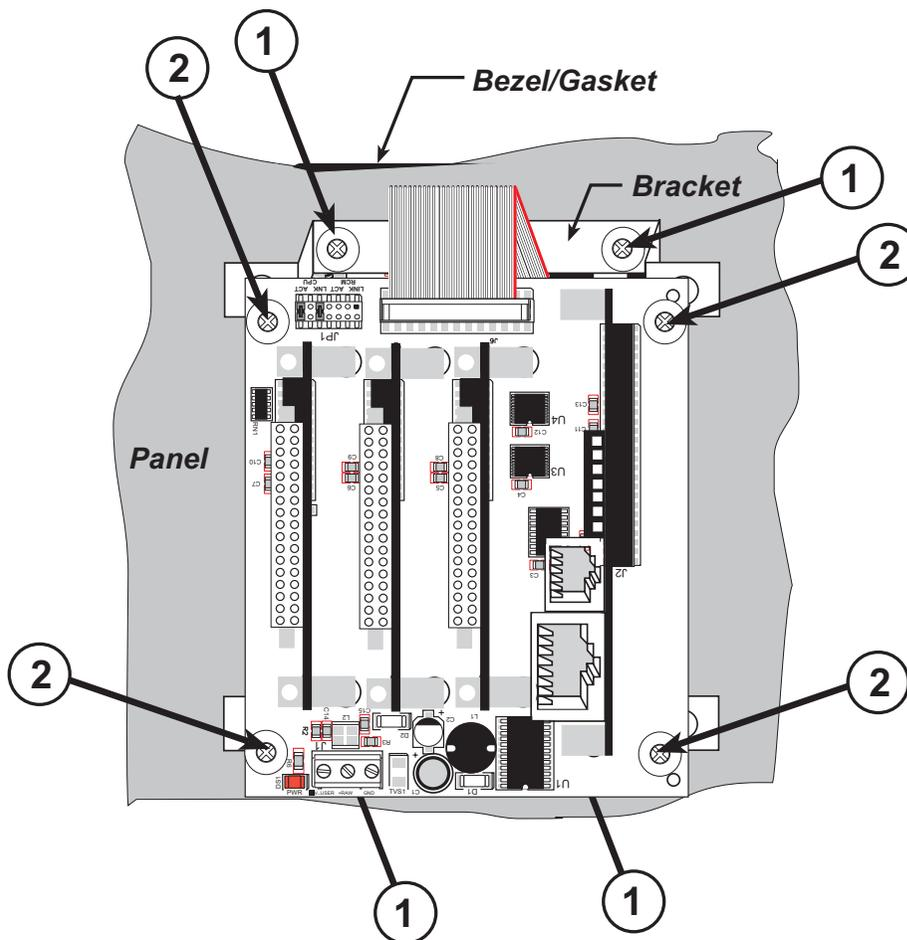

Figure B-10. Install Smart Star Backplane Behind LCD/Keypad Module
2. Use brackets to secure the LCD/keypad module to the panel using the four 4-40 screws and washers included with the LCD/keypad module. The four screw positions are indicated with the number 1 in Figure B-10. If your panel is thick, use a 4-40 screw that is approximately 3/16" (5 mm) longer than the thickness of the panel.
3. Use a ribbon cable to connect header J6 on the backplane to header J1 on the LCD/keypad module. Note the pin 1 positions reflected by the red-colored line in the ribbon cable shown in Figure B-10.
4. Secure the Smart Star backplane using four 4-40 × 1/2" or 6-32 × 1/2" screws at the screw positions indicated with the number 2 in Figure B-10.